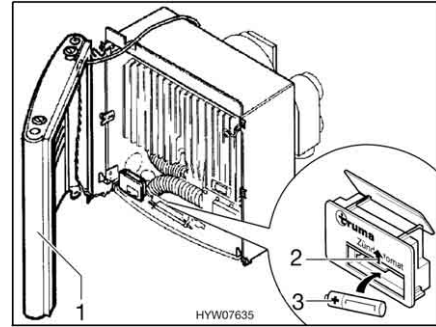

Fig. 110 Heater opened
- Turn the cover (Fig. 110,1) to the side, so that the connecting cables for the hot-air fan as well as the ignition control lamp do not need to be disconnected.
- Push battery chamber cover on the automatic ignition (Fig. 110,2) upward.
- Insert a new battery (Fig. 110,3) of the same type, correctly aligned (+/-), into the battery chamber of the automatic ignition. Only use temperature resistant (+70 °C) and leak-proof Mignon batteries.